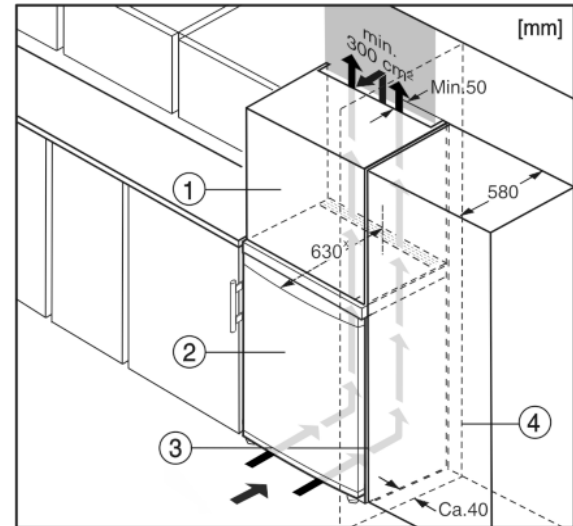

Fig. 6
- (1) Stack cabinet
- (2) Appliance
- (3) Kitchen cabinet
- (4) Wall
The appliance can be built into kitchen units. A top cupboard Fig. 6 (2) can be added above the appliance in order to bring the appliance Fig. 6 (1) up to the height of the fitted kitchen units.*
When installing with kitchen units (max. depth 580 mm), the appliance can be positioned directly next to the kitchen cabinet Fig. 6 (3). The appliance will project by 34 mm* at the sides and 50 mm* in the centre of the appliance in relation to the kitchen cabinet front.*
If the appliance is installed with the hinges next to a wall Fig. 6 (4), the distance between appliance and wall has to be at least 40 mm. This corresponds to the projection of the handle when the door is open.